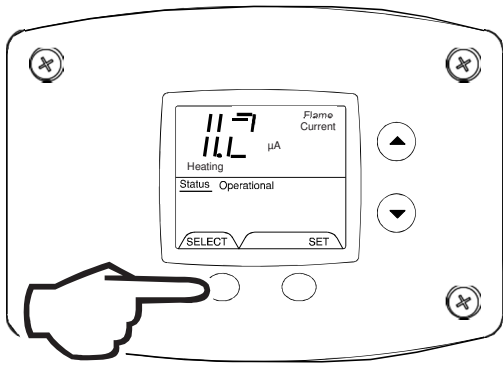

Fig. 50
3. Press the 'Select' button until a number value is displayed with 'Flame Current' to the right of the number. The value displayed is in microamps (μA). (Fig. 50)